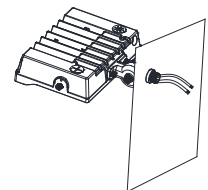

figure 1.5
Step 3: Loosen screws; Adjust fixture angles as per actual demands and tighten screws later; Angles of the fixture is adjustable(pass the bracket through mounting surface, fix it with screws, then connect the wires as per proper wiring requirements). (figure 1.5)